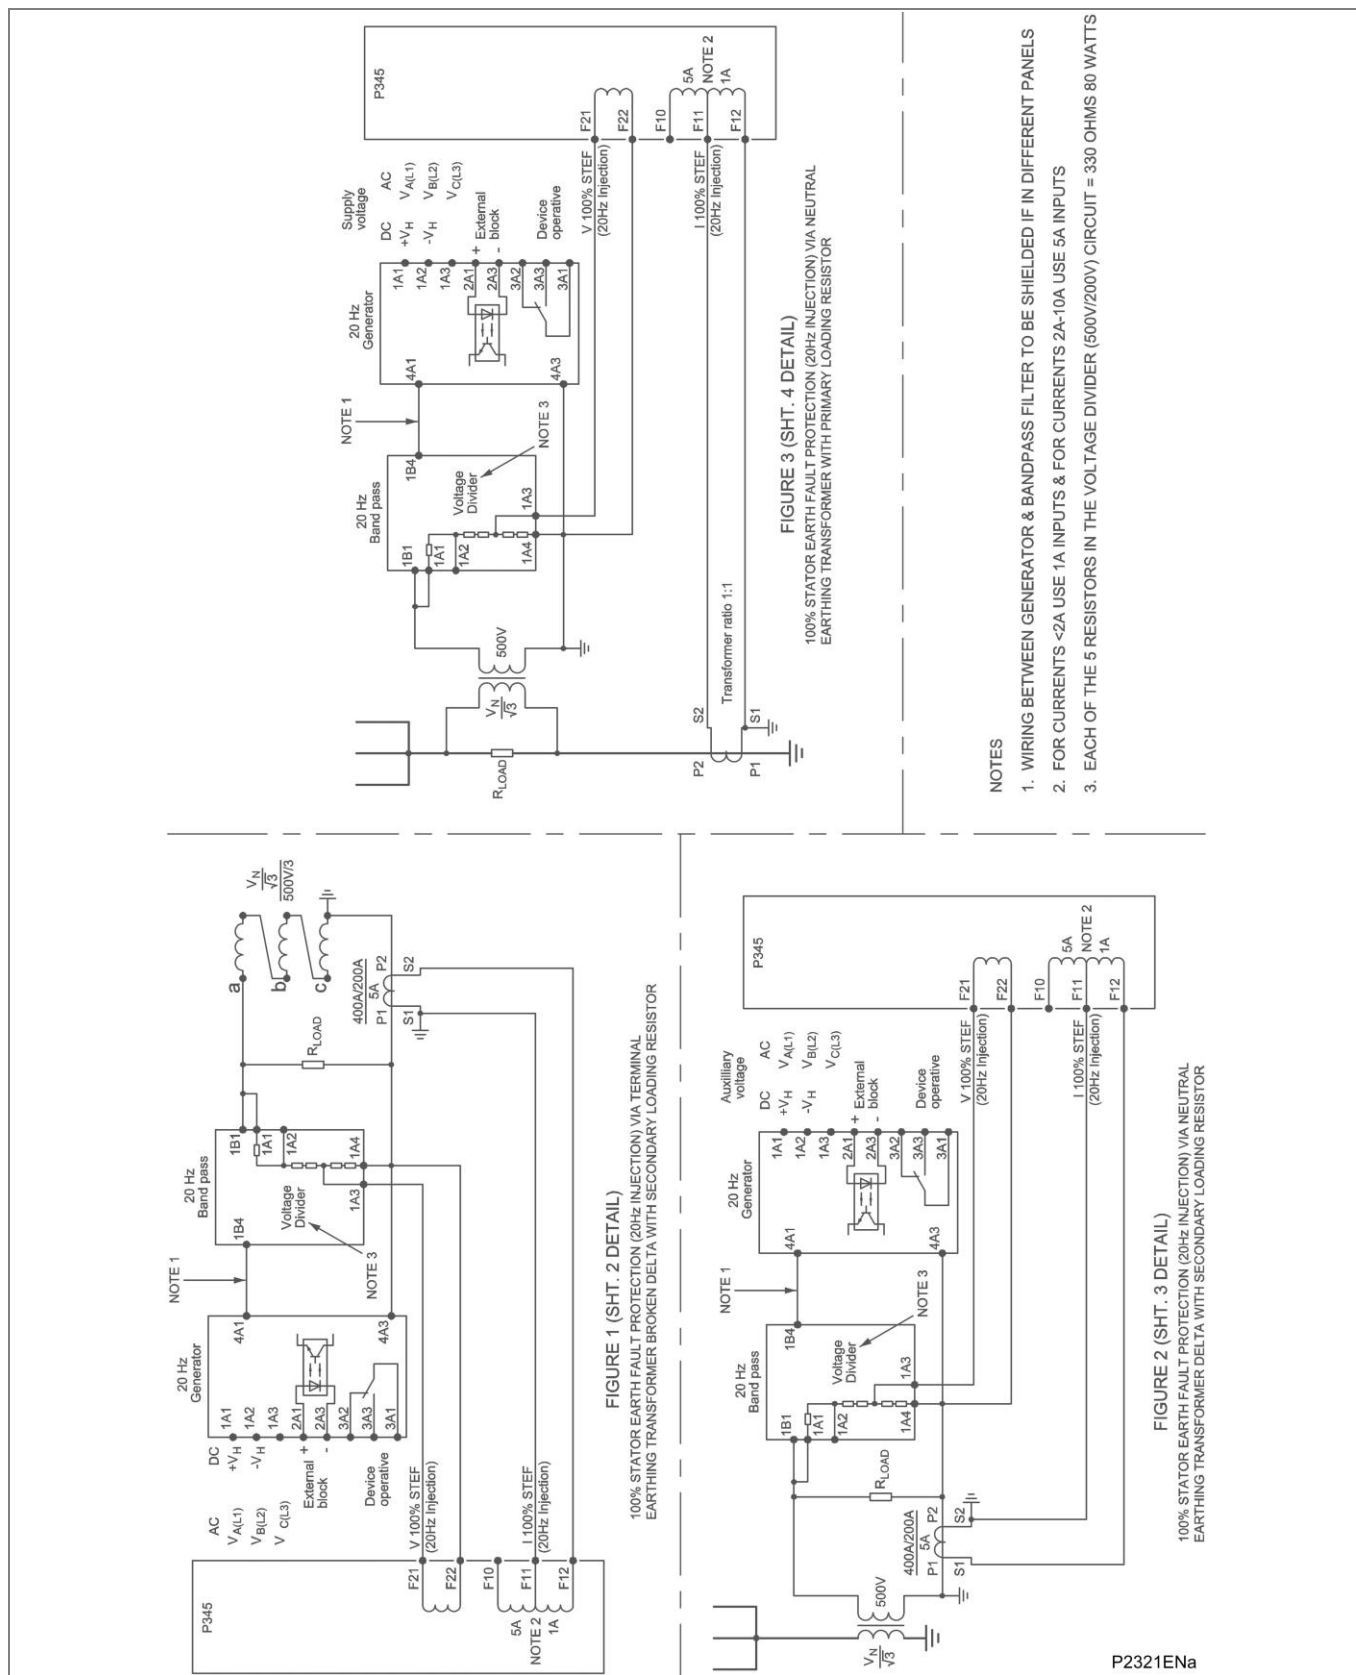

Figure 54 - P345 (80TE) 100% stator earth fault via low frequency injection configurations
- Figure 54 - P345 (80TE) 100% stator earth fault via low frequency injection configurations